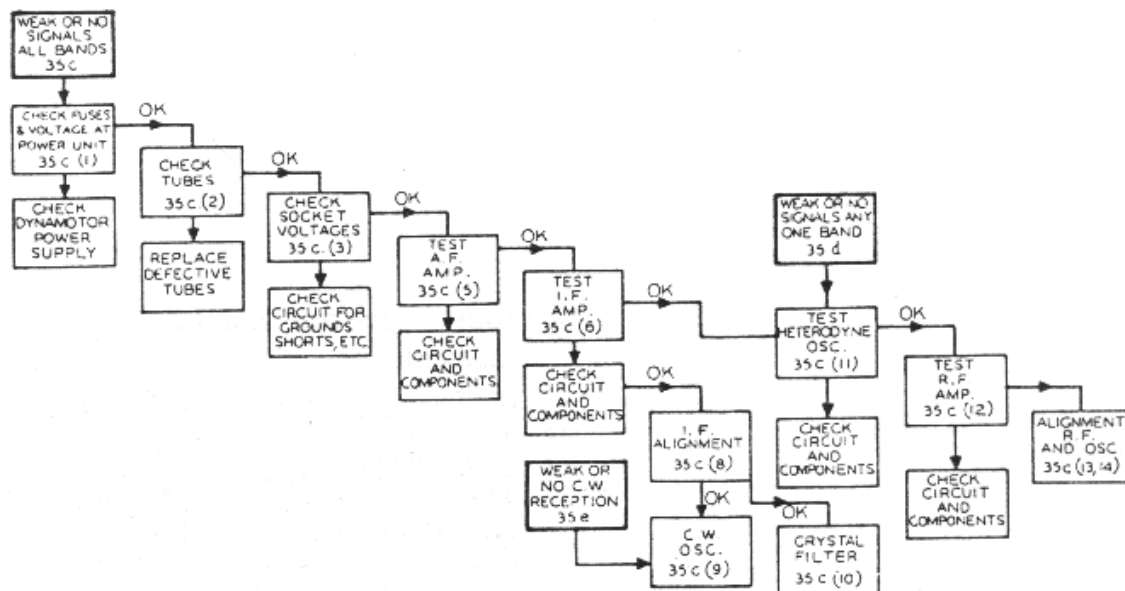
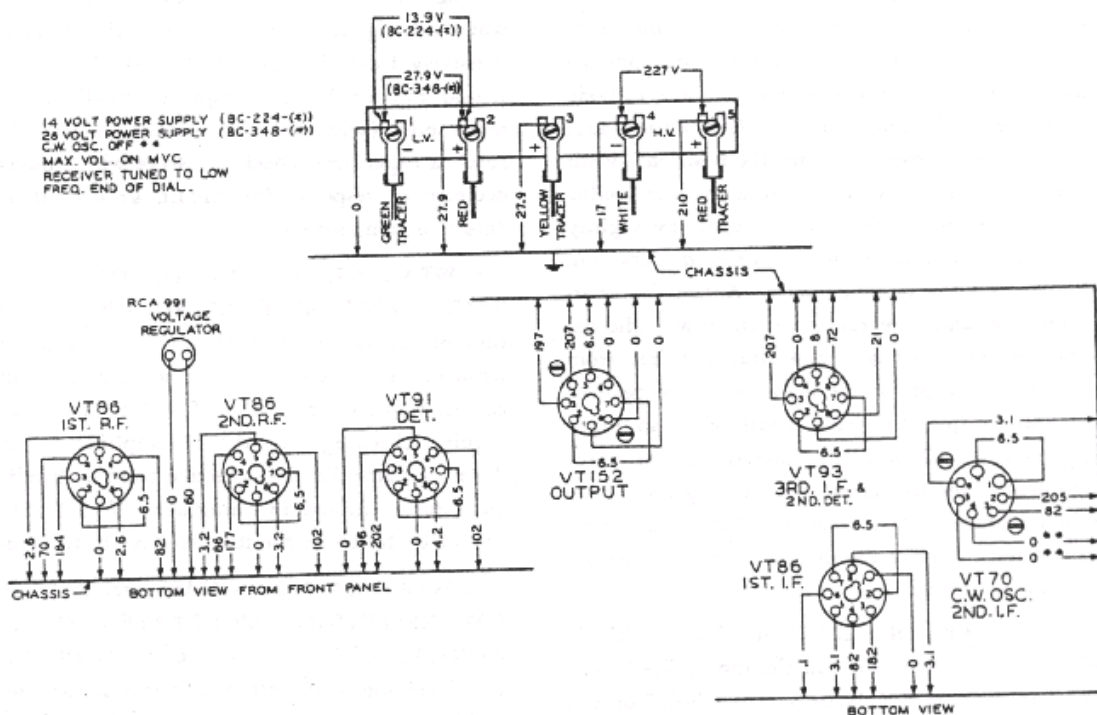

Figure 5-1 Trouble Location and Correction Diagram
Figure 5-2 Radio Receiver BC-348-(*) or BC-224-(*) -- Dynamotor and Tube
Figure 5-1 graphically outlines the procedure for trouble location, the numbers in each block referring to the paragraph in this section.
(1) CHECK OF DYNAMOTOR VOLTAGES. --When all signals on all bands are weak or no signals are heard even when known to be present, the procedure follows that shown in Figure 5-1. The voltages checked at the dynamotor terminal board should closely approximate the values shown in Figure 5-2. Conditions for measurement are as follows: Input 28-volts for Radio Receiver BC-348-(*) or 14volts for Radio Receiver BC-224-(*); "CRYSTAL" Switch Set to "OUT"; 'AVC-OFF-MVC' Switch Set to "MVC"; "INCREASE VOL." control set to maximum; "C.W. OSC." Switch Set to "OFF." Load 4,000 ohms resistance (output transformer connected for HI output impedance). If these readings do not approximate the values shown, check the fuse as well as the dynamotor and filter circuits, wiring and components.
(2) TUBE CHECK.--If the voltages at the dynamotor terminal board approximate the values given, check all tubes for emission and characteristics or replace all tubes with those of known average characteristics.
(3) CHECK OF SOCKET VOLTAGES.--If tubes check satisfactorily, or if, after replacing with tubes known to be good, the sensitivity is still low, check all tube socket voltages. The average socket voltages are given in Figure 5-2.
- (4) CHECK CIRCUIT WIRING AND COMPONENTS.--If the tube socket voltages do not approximate the values shown in figure 5-2, check the associated circuits and components for grounds, shorts, and similar defects.
- (5) TEST OF AUDIO-FREQUENCY AMPLIFIER.--Having checked all socket voltages and found the values to be correct, test the audio frequency amplifier. This can be checked by capacitively-coupling a 400-cycle voltage of approximately 2 volts rms from the detector diode socket prong to ground using a capacitor of 500,000 micromicrofarads. As an alternative, a modulated 91.5 kc signal of 2 volts may be coupled to this point and ground. Proper functioning of the audio amplifier will be indicated by an output well over 1.0 milliwatts for the 2 volt audio input or approximately 1 milliwatt output for 915 kc input. Check circuits, wiring and components if this order of response is not obtained.
- (6) TEST OF INTERMEDIATE-FREQUENCY AMPLIFIER.--Following a satisfactory test of the audio amplifier, check the intermediate frequency amplifier by capacitively coupling the modulated test oscillator to the grid cap of the first detector tube through a 100,000-micromicrofarad capacitor, with the oscillator frequency being adjusted to 915 kc. A rough check of the proper functioning of the i-f amplifier is indicated by a comfortable headphone output level with low input from the test oscillator. (Approximately 30 microvolts input for 10 milliwatts output.)
- (7) I-F AMPLIFIER CIRCUIT CHECK.--If the i-f amplifier does not respond as above or lacks sensitivity, a progressive check, stage by stage, should be made. The test oscillator, 915 kc (modulated 30% with 400 cycles), is connected through a 100,000 micromicrofarad capacitor to the second detector diode socket prong. A signal response indicates proper functioning. Coupling the test oscillator to the grid of the third i-f should indicate a decided gain in sensitivity. Proceeding similarly towards the first detector, each stage should show a decided gain. Circuit check a faulty stage for grounds, shorts, or defective components.
- (8) CHECK AND ADJUSTMENT OF C-W OSCILLATOR.--Check and adjust the c-w oscillator by coupling the 915 kc input (modulation off) to the grid of the first detector tube and switch the c-w oscillator ON. With the beat frequency control set at mid-position, the oscillator inductance tuning core 121 is adjusted for zero beat. If no c-w beat can be heard, check the c-w oscillator circuit for grounds, shorts, or defective components. With the c-w oscillator ON the screen voltage at the first and second i-f sockets drops to approximately 45 volts (measured to ground).
- (9) TEST AND ADJUSTMENT OF CRYSTAL BAND-PASS FILTER.--Normally the crystal bandpass filter is adjusted at the factory for a band width of 1,500 to 2,000 cycles at 10X down from resonance. Test this filter by applying an unmodulated signal of approximately 915 kc connected through a 0.1 mfd capacitor to the grid of the first detector tube. The c-w oscillator should be off during this test. To adjust the band width of the crystal filter, a signal generator or microvolter having an expanded tuning scale in the vicinity of 915 kc and having also an attenuator with a multiplier of 10 times (20db) is required. The following procedure is recommended: Connect a microammeter with a range of approximately 200 microamperes in series with the cathode return of the AVC volume control (79-B white lead). Throw the crystal switch to the IN position. With the unmodulated 915 kc input from the test oscillator, find the resonance peak of the crystal by slightly retuning the test oscillator until maximum deflection is indicated on the microammeter. Adjust the phasing control 8 until the resonance curve as indicated on the microammeter is symmetrical and free from dips or peaks except for the main resonance peak of the crystal. Adjust the band Width with an input voltage ratio of 10X to approximately 2 kc by slight realignment of the secondary (top) tuning core of the first i-f transformer 251. After concluding the above described tests, remove the microammeter and restore the circuit to normal.
- (10) CHECK OF HETERODYNE OSCILLATOR.--After checking the functioning of the i-f and audio amplifiers, if signals are still not heard on any band, check the heterodyne oscillator. This can be done by observing the cathode voltages at the socket of the first detector tube, Tube JAN 6J7, when grounding the stator of the oscillator section (I-D) of the tuning capacitor. If no change in voltage is noted with this test, check the oscillator circuit for grounds, shorts or defective components.
- (11) TEST OF THE R-F AMPLIFIER.--Having completed the test and alignment of the audio amplifier, i-f amplifier and heterodyne oscillator, test the r-f amplifier as follows: